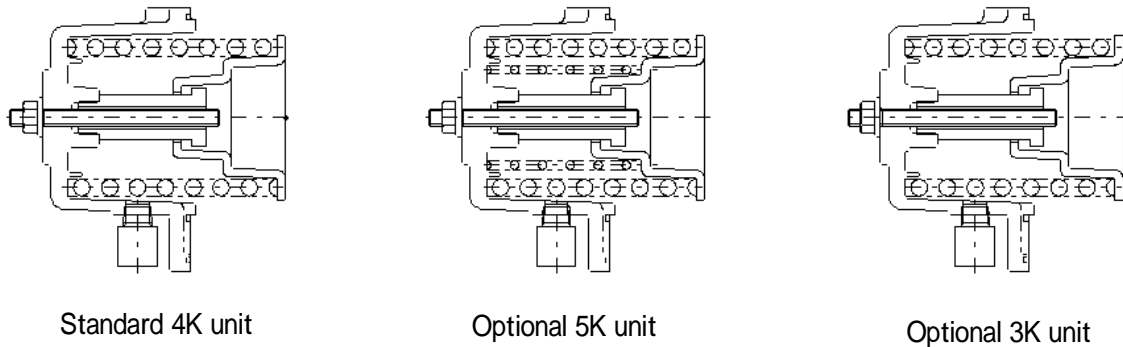

Fig.4
4.1 KITZ Type FAS spring return actuators are factory-assembled with a standard 4K spring cartridge unit (for 0.4MPa operating pressure). This can be optionally changed to either 3K unit (for 0.3MPa) or 5K unit (for 0.5MPa) with the procedures provided below (**Fig.4**).